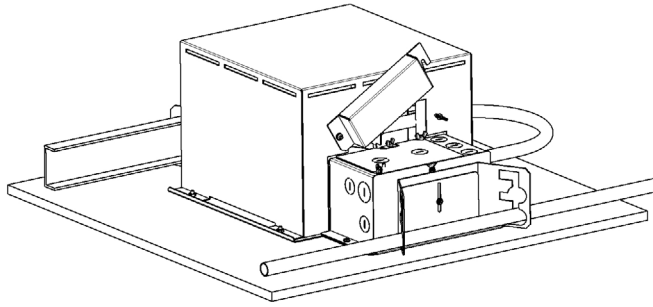

Figure 2
1. Insert ½" conduit or C channels, by others, into mounting brackets. Figure 2.